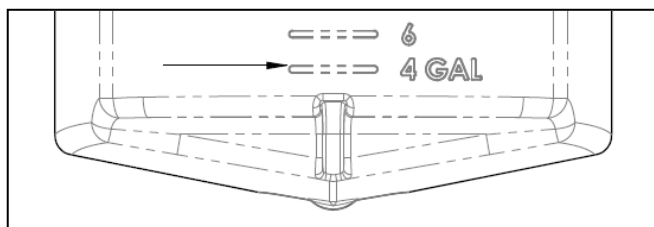

Figure 2: Top edge of water volume marking.
- NOTE:** Water volume markings are accurate at the top edge of the marking (Figure 2).